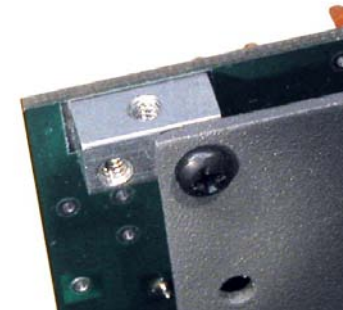

Figure 35. Bottom Cover Attached to 2-D Fastener.
Clean the paint off of the inside surface of the bottom cover around the screw holes in the four corners where the 2D connectors will attach it to the RF board (See Figure 35).
- Pick up the entire assembly and secure the four 2-D fasteners to the bottom cover. Each corner is attached with one 3/16" (4.8 mm) black screw (see Figure 35). The other two screw holes in each 2-D fastener will secure the front, rear and side covers in later steps.